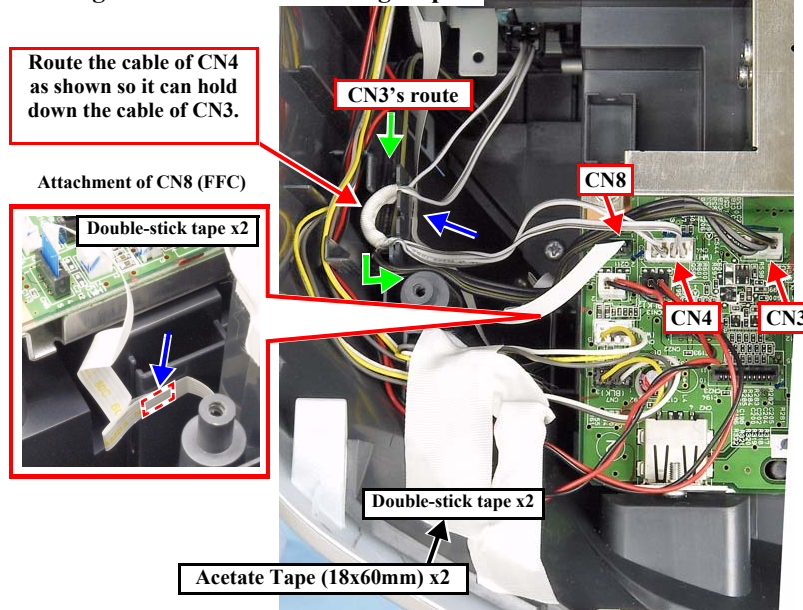

Figure 4-21. Routing the Cables and FFCs of Group B
5. Fasten the cables of group A with tape. (Fig. 4-21)
6. Route the harnesses of group B in the order of the power supply harness (CN3) → PF Encoder (CN8) → CD-R Sensor (CN4), and connect them to the circuit board. (Fig. 4-21)